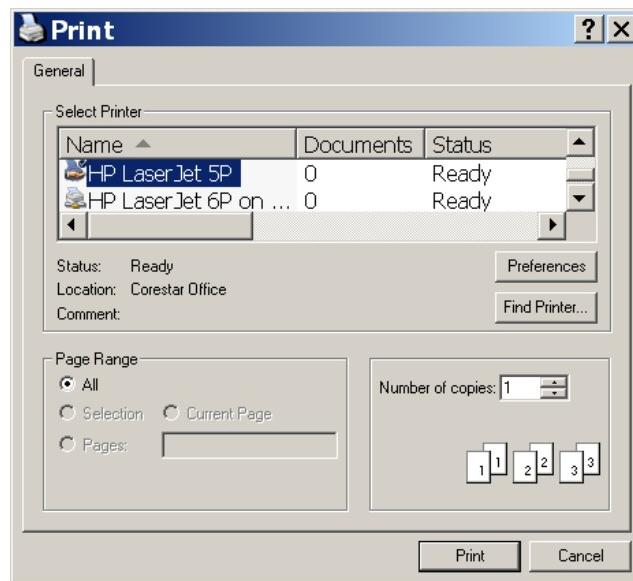

Figure 7. Print Dialog
- o **File | Print (Ctrl+P)** displays a typical Windows **Print** dialog as shown in Figure 7. Select the desired printer, click the **Preferences** button to modify the printer's parameters as desired, then click **Print** to print; otherwise, click **Cancel**.